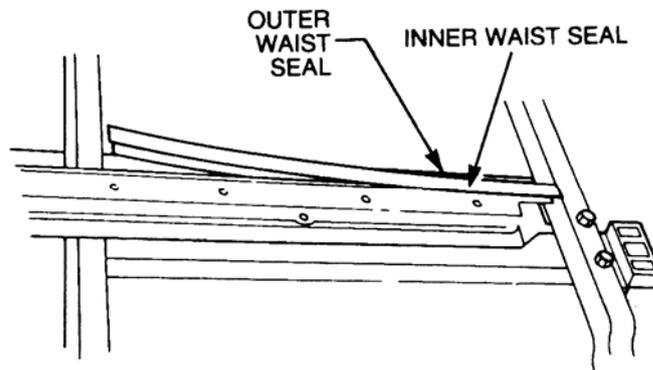

Figure 22 Window Waist Seals Removal
- jj. Remove the inner and outer waist seals from the door flanges (refer Figure 22).
- r. Install the inner and outer waist rail seals on the door flanges (refer Figure 22).